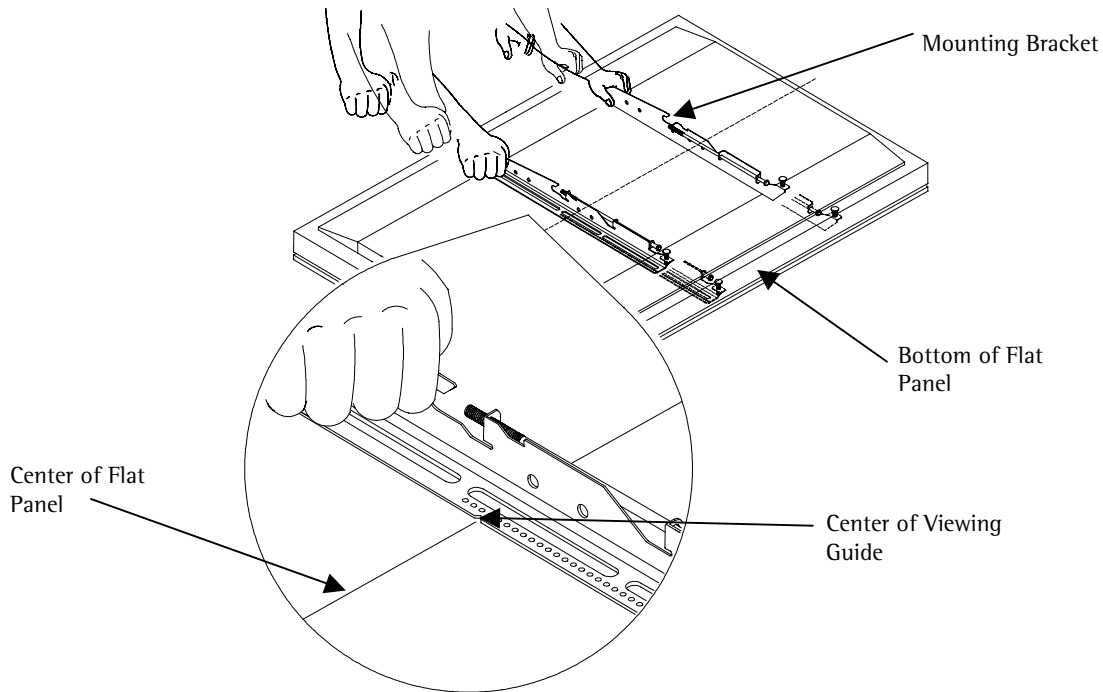

Figure 5. Locating the Center of the Flat Panel
**NOTE:** The mounting guides are designed with a center viewing guide on the side of them. There will be a “notch” cut on the side of the bracket (Figure 5).